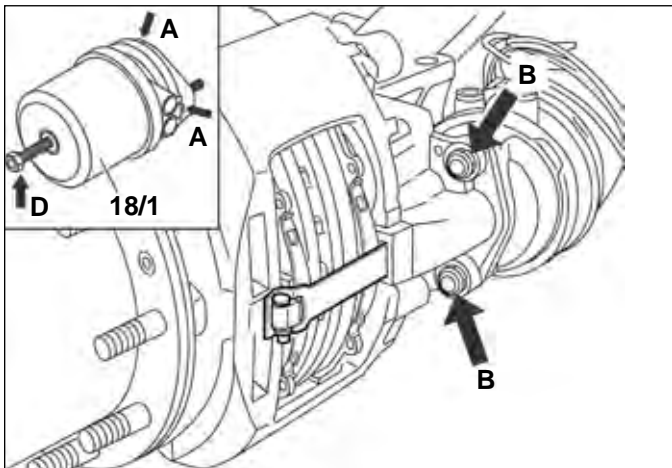

FIGURE 43 - ACTUATOR SPRING CAGING AND REMOVAL
5.4.3 With the vehicle on a level surface and the wheels properly chocked, apply air to release the spring brakes (parking brakes) by using the dash-mounted air control valve. Back out the release bolt (Figure 43, arrow "D"), using a maximum torque of 26 ft. lbs. (35 N·m) to cage the air released spring force on the push rod.
Note: Where a new spring brake chamber is being installed, note that in some cases drain plugs are installed (See Figure 43, arrows marked "A"). Where drain plugs are present, after installation, remove whichever plug is at the lowest position. The selected drain hole must be aligned downwards (or within ±30°) when installed on the vehicle. In the case of spring brake chambers, install the pads before uncaging the spring.